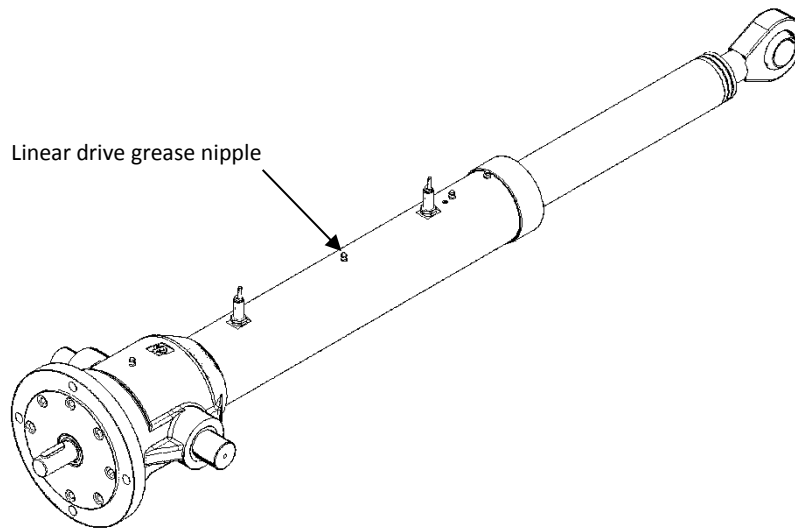

Figure 9.2 – Linear drive lubrication
- Relube the linear actuator using proper grease nipples, as shown on Fig. 9.2.